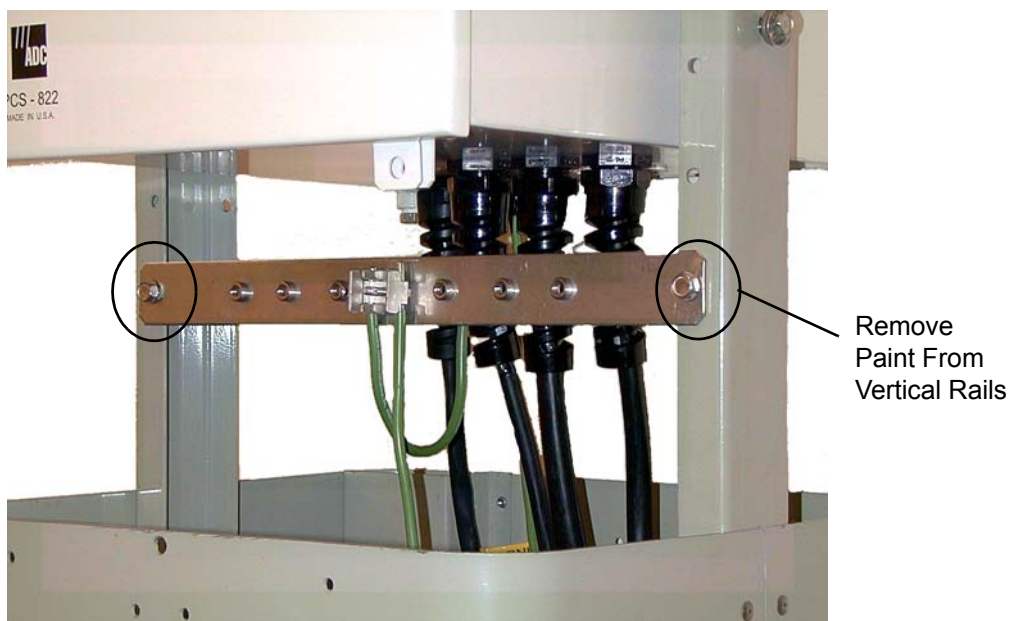

Figure 18. Mounting the Ground Bar to the Pedestal
4. Follow local practice to remove the paint around the bottom set of holes on the front rails of the pedestals (Figure 18).